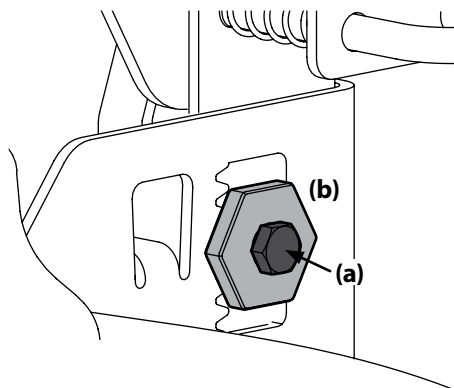

Figure 4-4
3. Loosen, but do NOT remove, the hex bolt (a) on the rear left deck hanger link. See Figure 4-4.
4. Using a wrench, raise or lower the left side of the deck by turning the adjustment gear (b). See Figure 4-4.